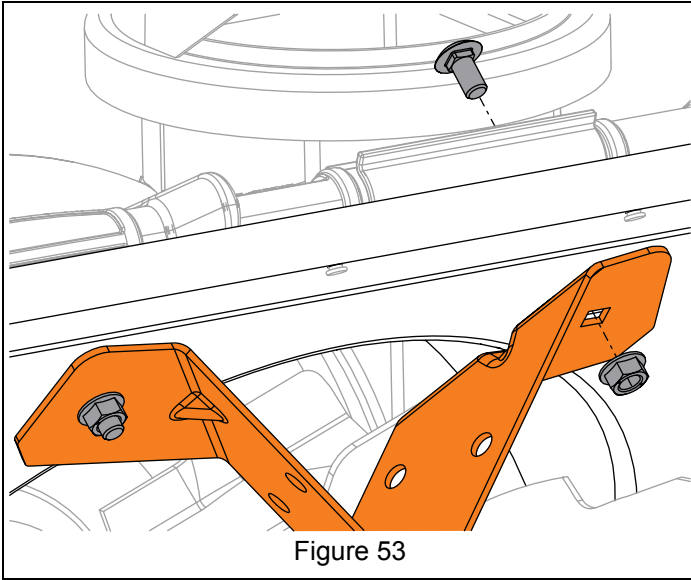

Figure 53
- Secure support brackets to auger housing with two round head square neck bolts and two top locking flange nuts. See Figure 53.